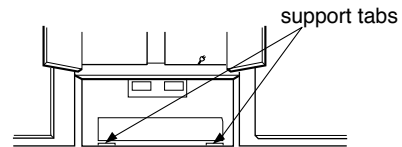

Figure 28
3. Place the mounting plate against the wall and match the screw holes. See Figure 28.
1. Carefully lift microwave oven and hang it on support tabs (See Figure 28 at the bottom of the mounting plate. Reaching through upper cabinet, thread power supply cord through the power supply cord hole in the bottom of the upper cabinet. See Figure 32.